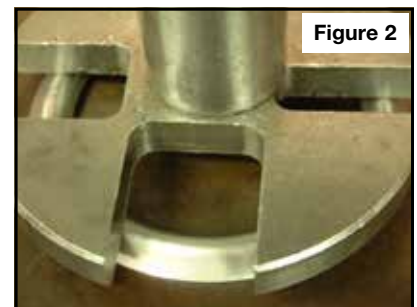
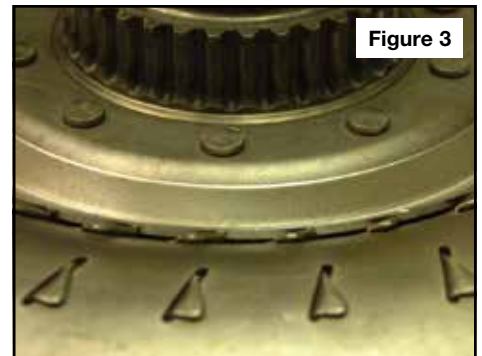

Figure 2
Figure 3
- b. Sonnax turbine stiffener plate **GM-WS-39** is shown in a hydraulic press (**Figure 2**), with an arbor press base plate on top of it. This press is powered by a 20-ton bottle jack. After contacting the plate, the handle of the jack only needs to move about one third of its stroke to achieve the desired flatness. When the plate has been properly flattened, the O.D. will have grown by .025–.030". The stock O.D. is 6.260" and the correct modified O.D. is 6.285–6.290". The modified **GM-WS-39** should fit the turbine like the plate in **Figure 3**.